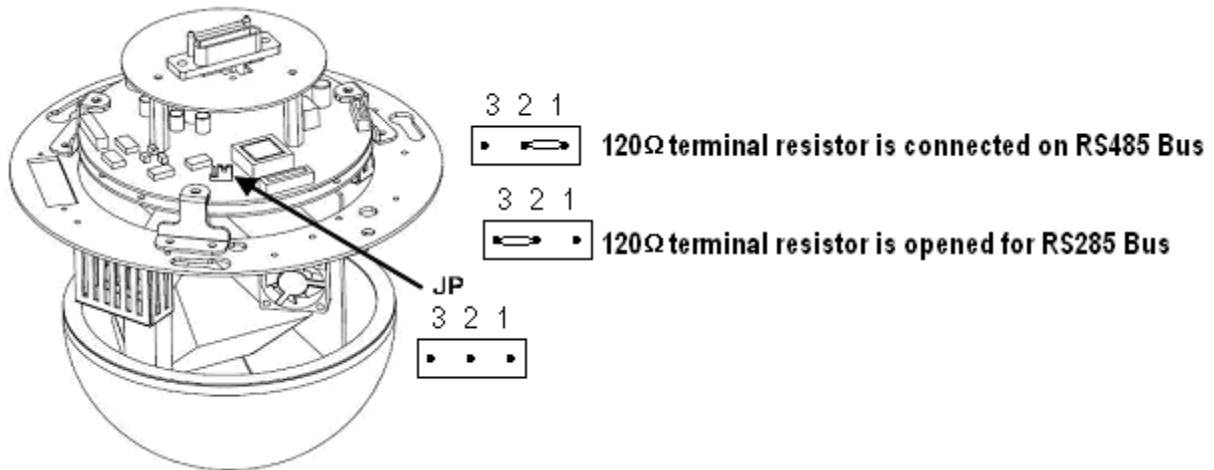
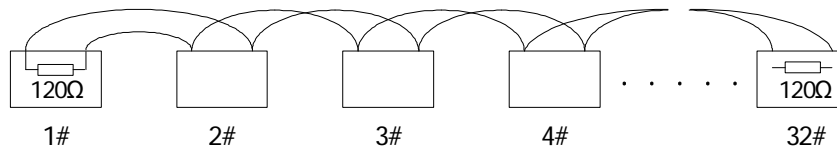
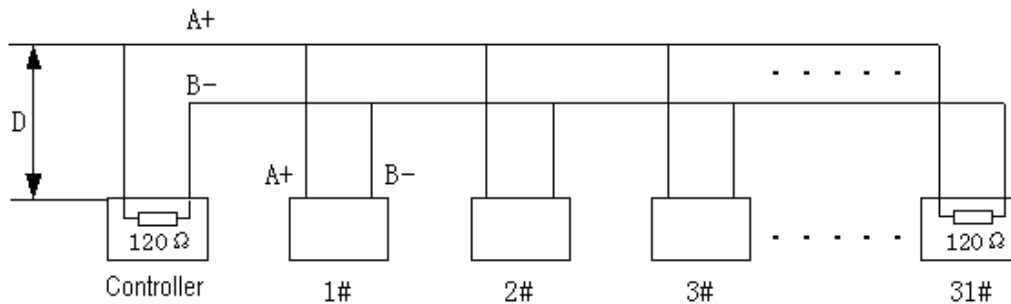

Figure 16
Figure 17
Figure 18
As shown in Figure 16, JP1 is the select switch of the 120 Ω terminal resistor on the bus RS485, on which only one terminal resistor of the dome camera at the farthest end can be connected, while the terminal resistors of other devices should be opened.
a) The RS485 standards require a daisy-chain connection between the equipment. There must be terminal resistors with 120Ω impedance at both ends of the connection (refer to Figure 16). Please refer to Figure 17 simple connection. "D" should not exceed 7m.
b) The connection of 120Ω terminal resistor: The terminal resistor is ready on the Protocol PCB. There are two kinds of connection. Refer to the Protocol PCB jumper setting form (refer to Figure 18). In the Figure 16 it is the factory default connection. The jumper is seated on Pin2&Pin3 and the terminal resistor is not connected. When connecting the 120Ω terminal resistor, user should plug the jumper on Pin1&Pin2, and the terminal resistor is connected.